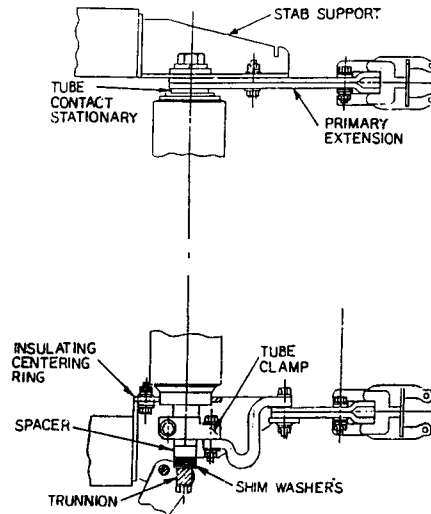

Figure 47: VS10006 and VS10028 1200 Amp.
- 14.2 VS10006 and VS10028 Interrupters in breakers rated 1200 amp (**Figure 47**).